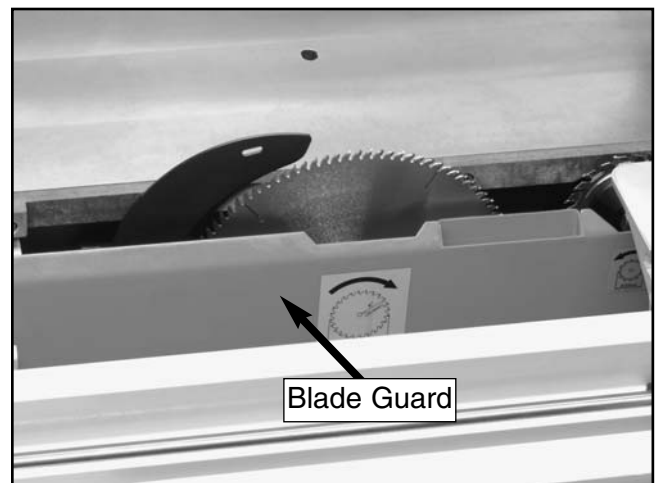

Figure 83. Blade guard exposed to access riving knife.
- Move the sliding table all the way to the left and push the release knob to expose the internal blade guard (**Figure 83**) that covers the blades and riving knife.